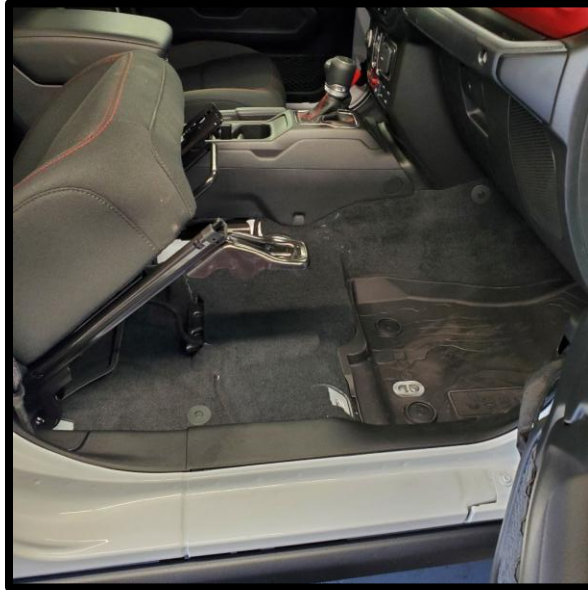

Figure 5
- 2-A) Using a T-50 or E-12 Torx remove the 2 rear bolts that secure the passenger seat, then slide the seat all the way back, and tilt back section all the way forward. Then remove the 2 front seat bolts and lean seat backwards (**Figure 5**). There will be one or more harnesses attached to the bottom of the seat. They do not need to be removed or disconnected.